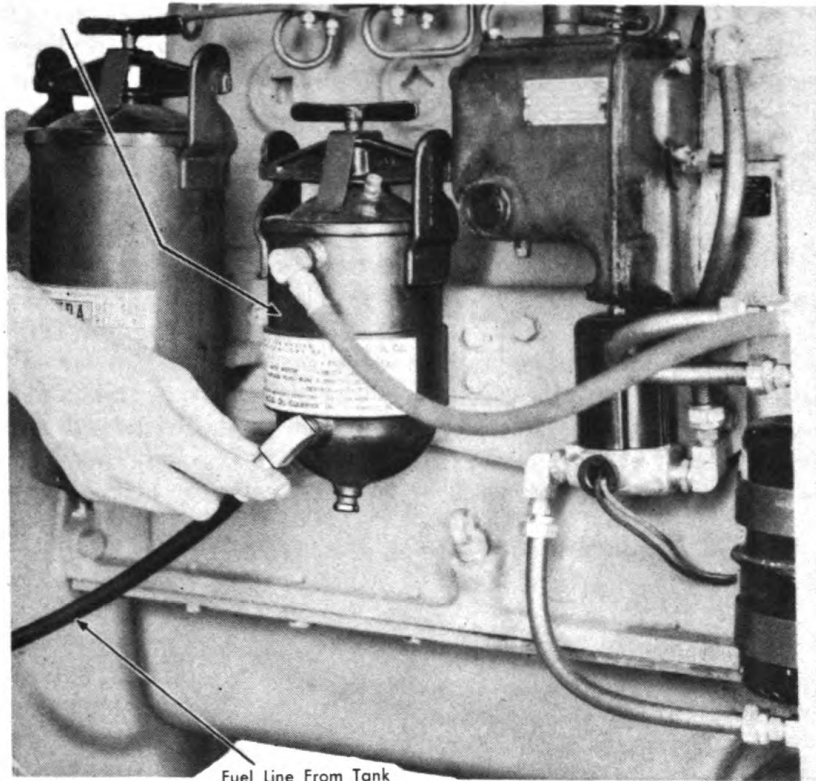

Figure 14.
4. Connect the fuel suction line to the first stage filter inlet, see Figure 14, and the suction connection on the fuel tank. (**NOTE:** The suction connection on the fuel tank is the special plug which has the pipe extending to the bottom of the tank.)